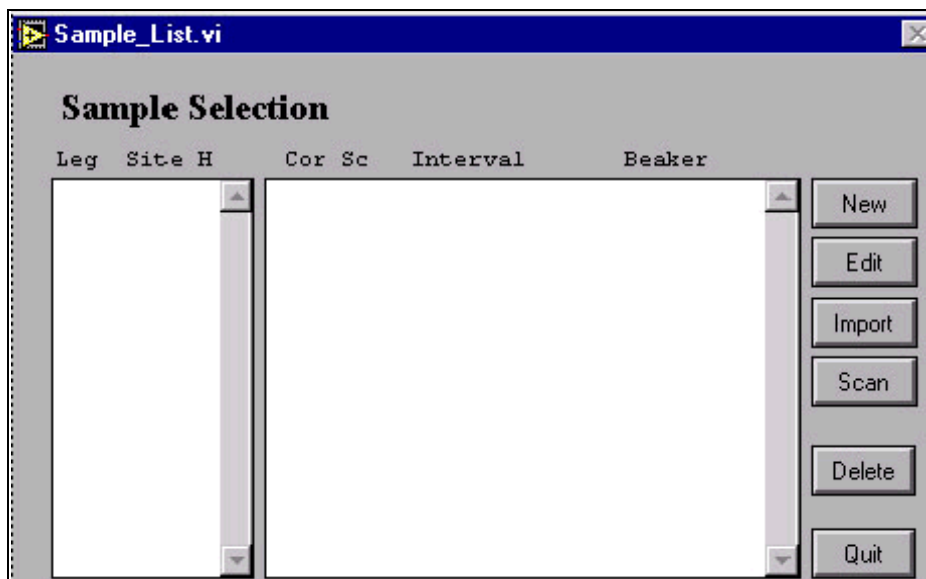

Figure 17. Select samples for analysis at this window.
1. Click on the **Sample** button to open the "Sample Selection" window (See Figure 17).